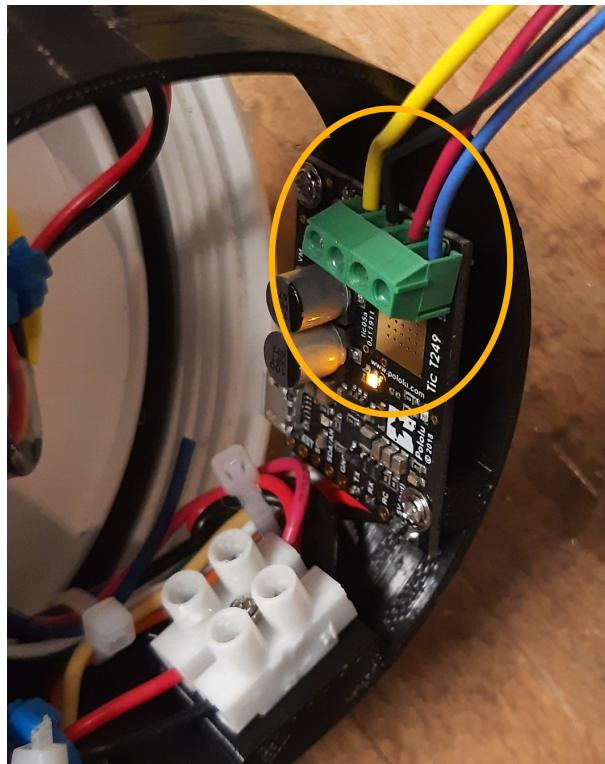

Figure 2. Motor controller board wiring.
11. Connect the motor connector wiring (socket end) to the newly installed terminal block. Follow the colour order shown in Figure 2.